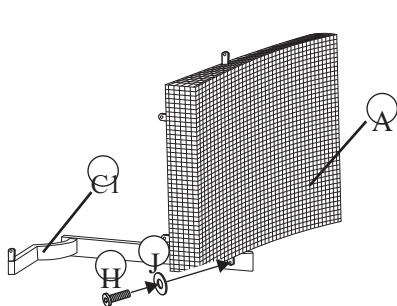

Fig. 1
Step 2: Attach the back frame to the left arm by using the 1/4"x18 mm bolts as shown in **Fig. 1**. Guide the bolts through the holes in the back frame, into pre-drilled holes in the left arm. **Hand tighten only.** Attach the seat frame to the left arm and back frame by using four 1/4"x18mm bolts and washers as shown in **Fig. 2**. **Hand tighten only.** Repeat above process (**Fig.1 & Fig.2**) for the right arm.